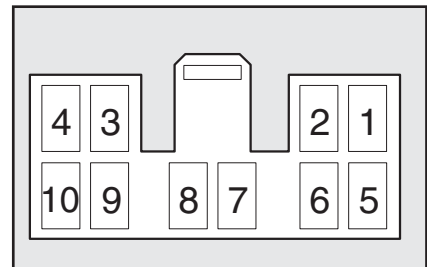

fig. 146
– a dual-purpose aerial connection wires and ten-pin connector wiring **fig. 146**.